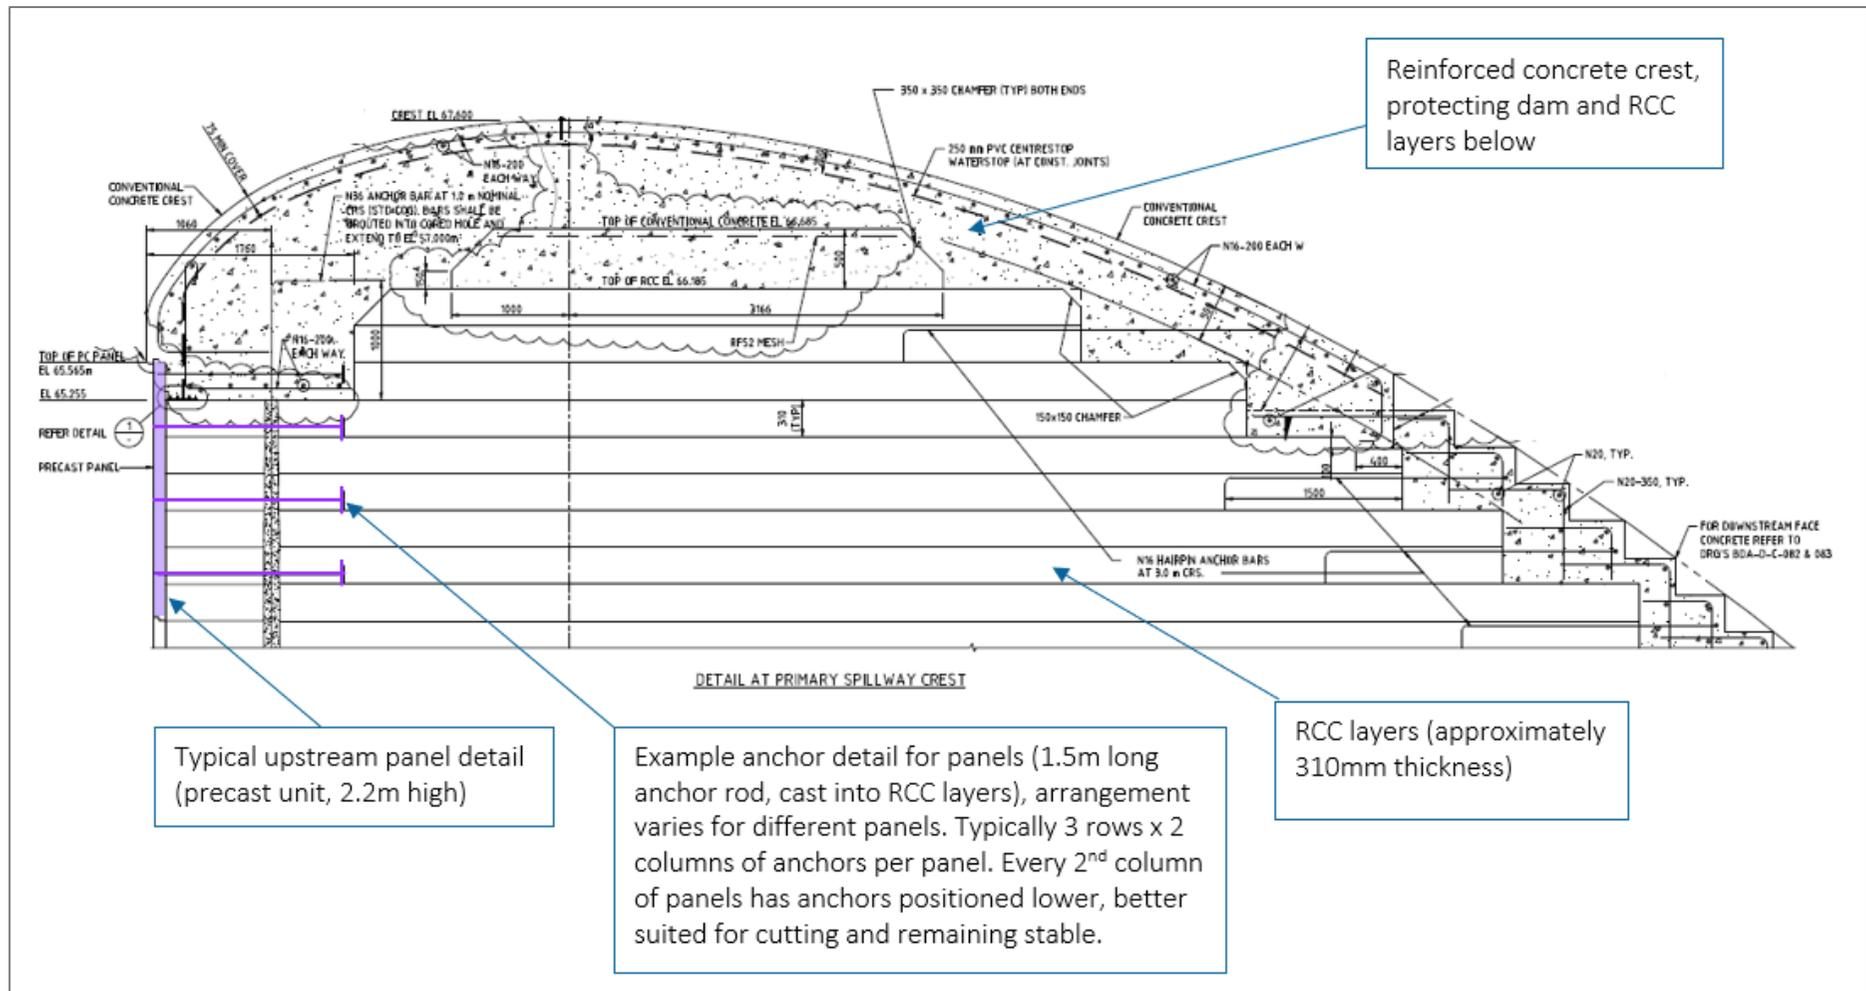

Figure 3 – Primary spillway crest detail, showing precast panels – existing dam
- Figures 3 and 4 show the existing panels and how they will appear after the wall lowering.